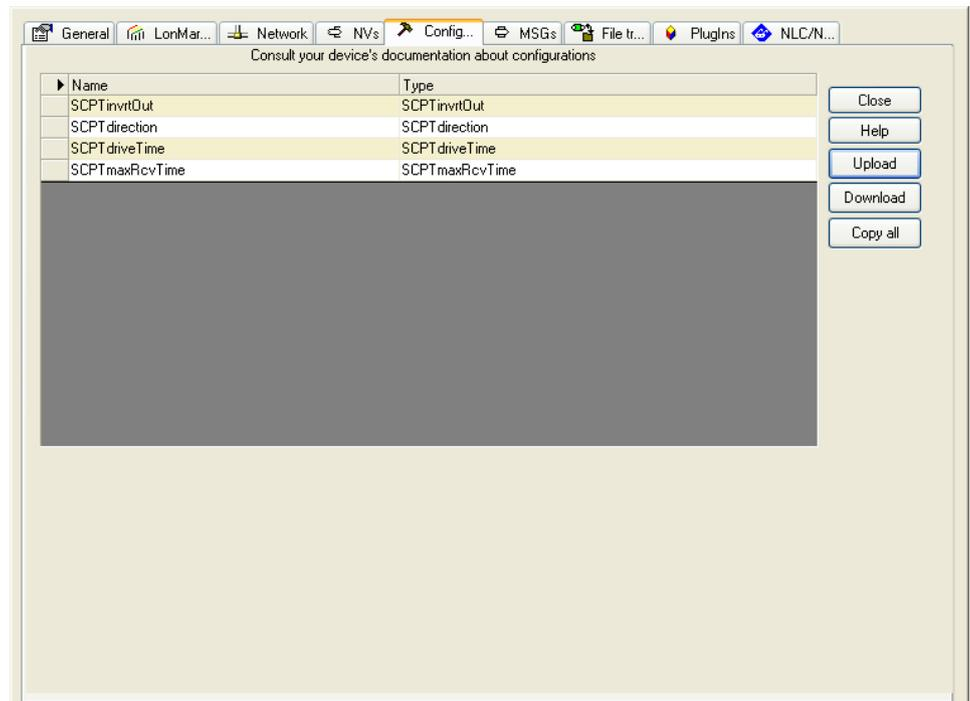

Figure 96: Configuration Tab for Configuration Properties in NL220.
2. Press the **Upload** button on the Configuration tab of the device properties (see Figure 96).